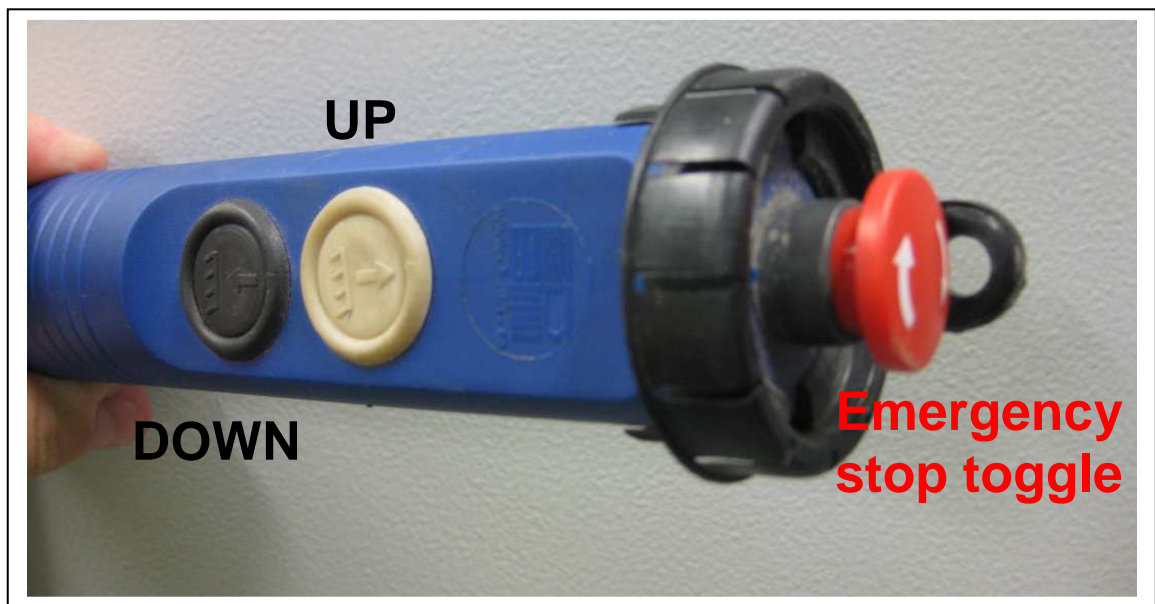
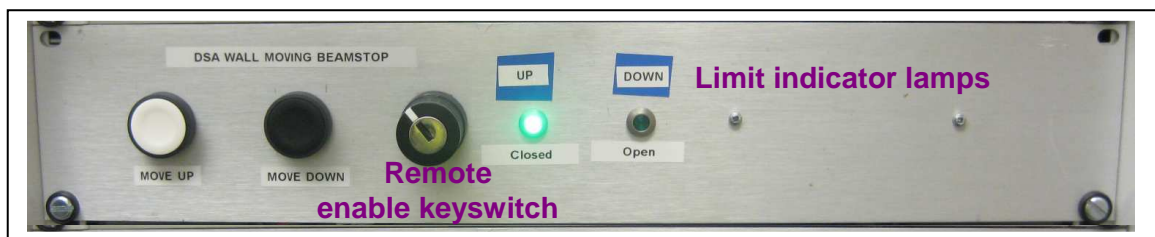

Figure 2: Moving Beamstop Hand Control Unit
Figure 3: Moving Beamstop Remote Control Panel
The beamstop can be operated either locally using a hand control unit, fig. 2, or remotely from the control panel in the Rack Room (rack DAQ-01), fig. 3. This is decided by turning the beamstop enable key in the appropriate keyswitch. The local enable key switch is mounted on the DSA wall, while the remote enable keyswitch is on the control panel.
- Check that the beamstop is in the fully raised position – the UP lamp on the remote control panel in the Rack Room (fig. 3) should be lit.